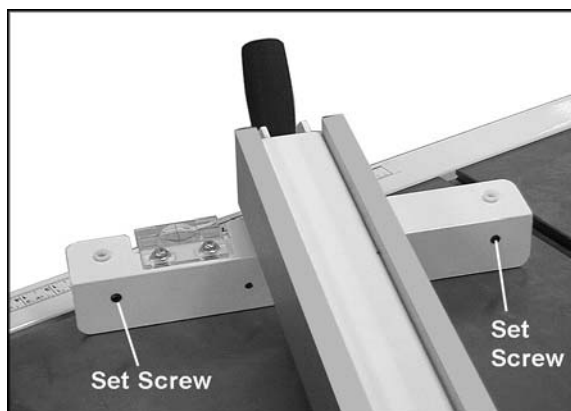

Figure 14
- If the side of the fence is not parallel with the miter slot, unlock the fence and lift it off the guide rail. Adjust one of the two set screws (Figure 14) until the fence is parallel to the miter slot along its entire length when in locked position.
If adjustment is needed, unlock the fence and lift it off the guide rail. Adjust the two set screws (Figure 14) *equally* until the fence is held securely when the lock handle is pushed down.